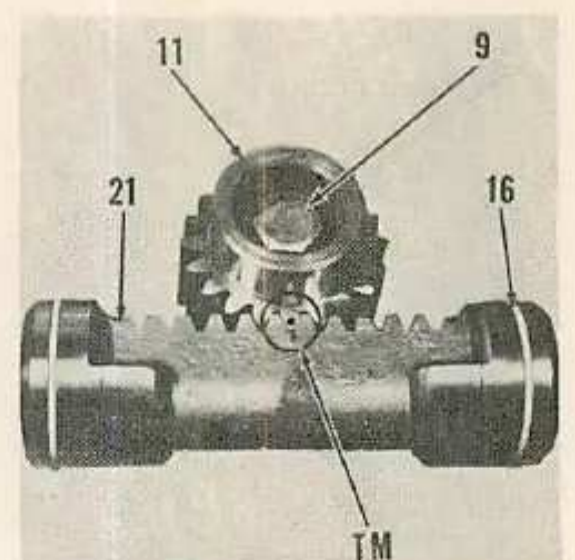
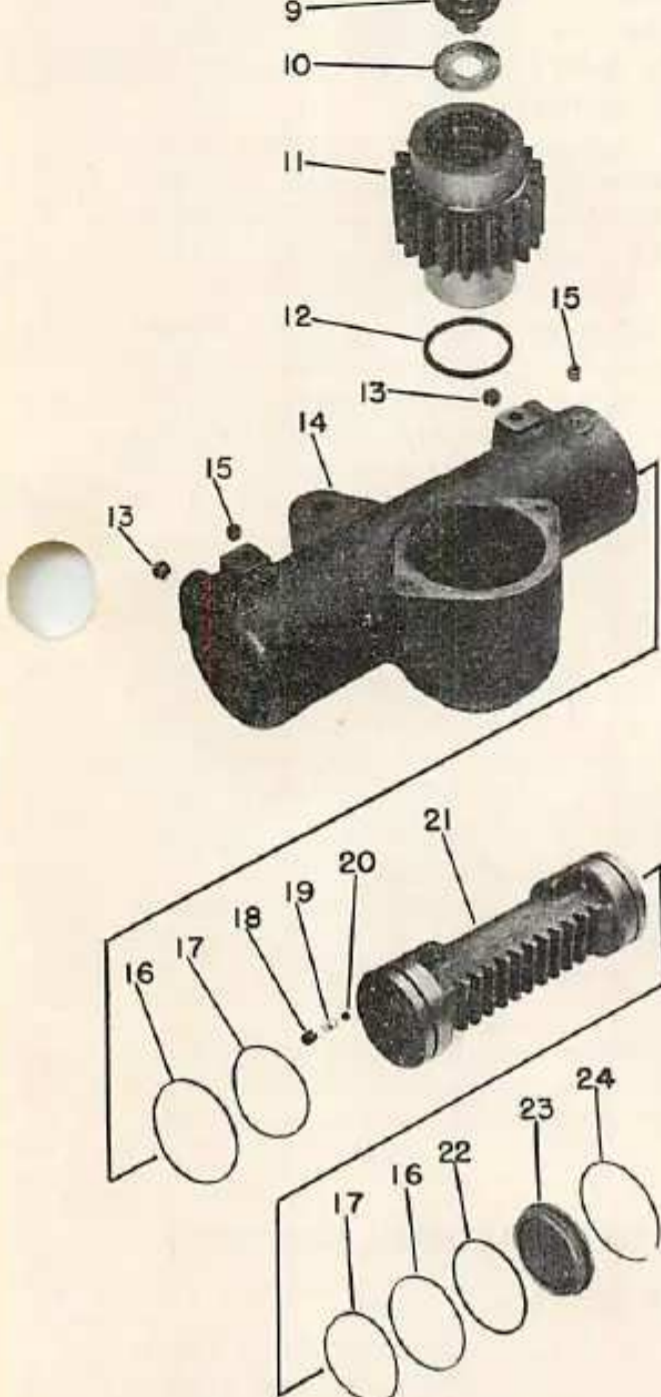

Fig. O51 — View of pinion (11) and piston (9).
Fig. O52 — Exploded view of power steering cylinder assembly used on all models except those equipped with four wheel drive.
power steering cylinder and immediately cap all openings. Refer to Fig. O52; remove plug (4) from cap (1) and remove cap from power steering cylinder. Pry plug (7) from pinion (11). Pull pinion from splines of front assembly shaft by turning puller bolt (9) counter-clockwise.
Reverse removal procedures to re-install cylinder. Punch mark on tooth of pinion (11) must be aligned with center tooth groove in piston as shown in Fig. O51. Tighten the puller bolt to a torque of 200 Ft.-Lbs., and tighten the nuts on torque link and tapered stud securely. Install plug (7—Fig. O52) with new "O" ring (6). Fill cavity around pinion with proper power steering fluid (see paragraph 48) before reinstalling cap (1) with new "O" ring (5).
58. OVERHAUL POWER STEERING CYLINDER. After removing the cylinder assembly as outlined in paragraph 57, proceed as follows: On Wheatland and Industrial models, remove pinion (11—Fig. O52). Remove snap ring (8), puller bolt (9) and washer (10). To remove end plug retaining snap ring (24), insert pin or punch in hole (H—Fig. O50) and push snap ring from groove in cylinder. Grasp one of the lugs on end plug with vise-grip pliers and, with a twisting motion, pull end plug from cylinder. Remove plug sealing "O" ring (22—Fig. O52) from end of cylinder and remove the piston (21). Re-
Reassemble cylinder, using all new sealing rings as follows: Insert check ball (20) into bore in end of piston (21), insert spring (19) with small end next to ball and drive the retaining spring pin (18) in flush with end of piston. Install "O" ring (17) in bottom of groove in end of piston, then install Teflon ring (16) on top of the "O" ring. Lubricate piston and install in bore of cylinder. Install "O" ring (22) in groove in open end of cylinder, lubricate and install end plug (23) and install plug retaining snap ring (24). Install quad ring (12) in bottom of pinion bore in cylinder casting and lubricate ring and bore. Install pinion (11), and washer (10), puller bolt (9) and retaining snap ring (8) in top of pinion. On Wheatland and Industrial models, insert pinion in cylinder with timing marks on pinion and piston aligned as shown in Fig. O51. Reinstall cylinder as outlined in paragraph 57.